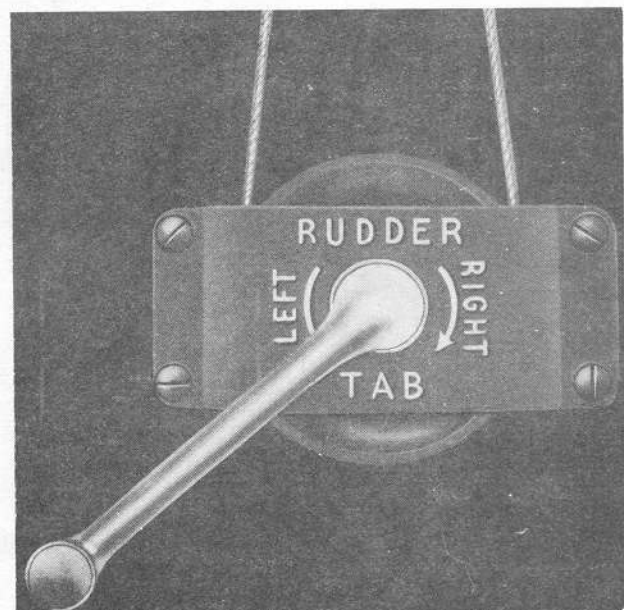

Figure 18—Rudder Tab Control
(1) RUDDER TAB.—The rudder tab control (figure 18) is located on ceiling of pilots' compartment. The hand crank is turned to left for trimming tab to left and to right to trim right.